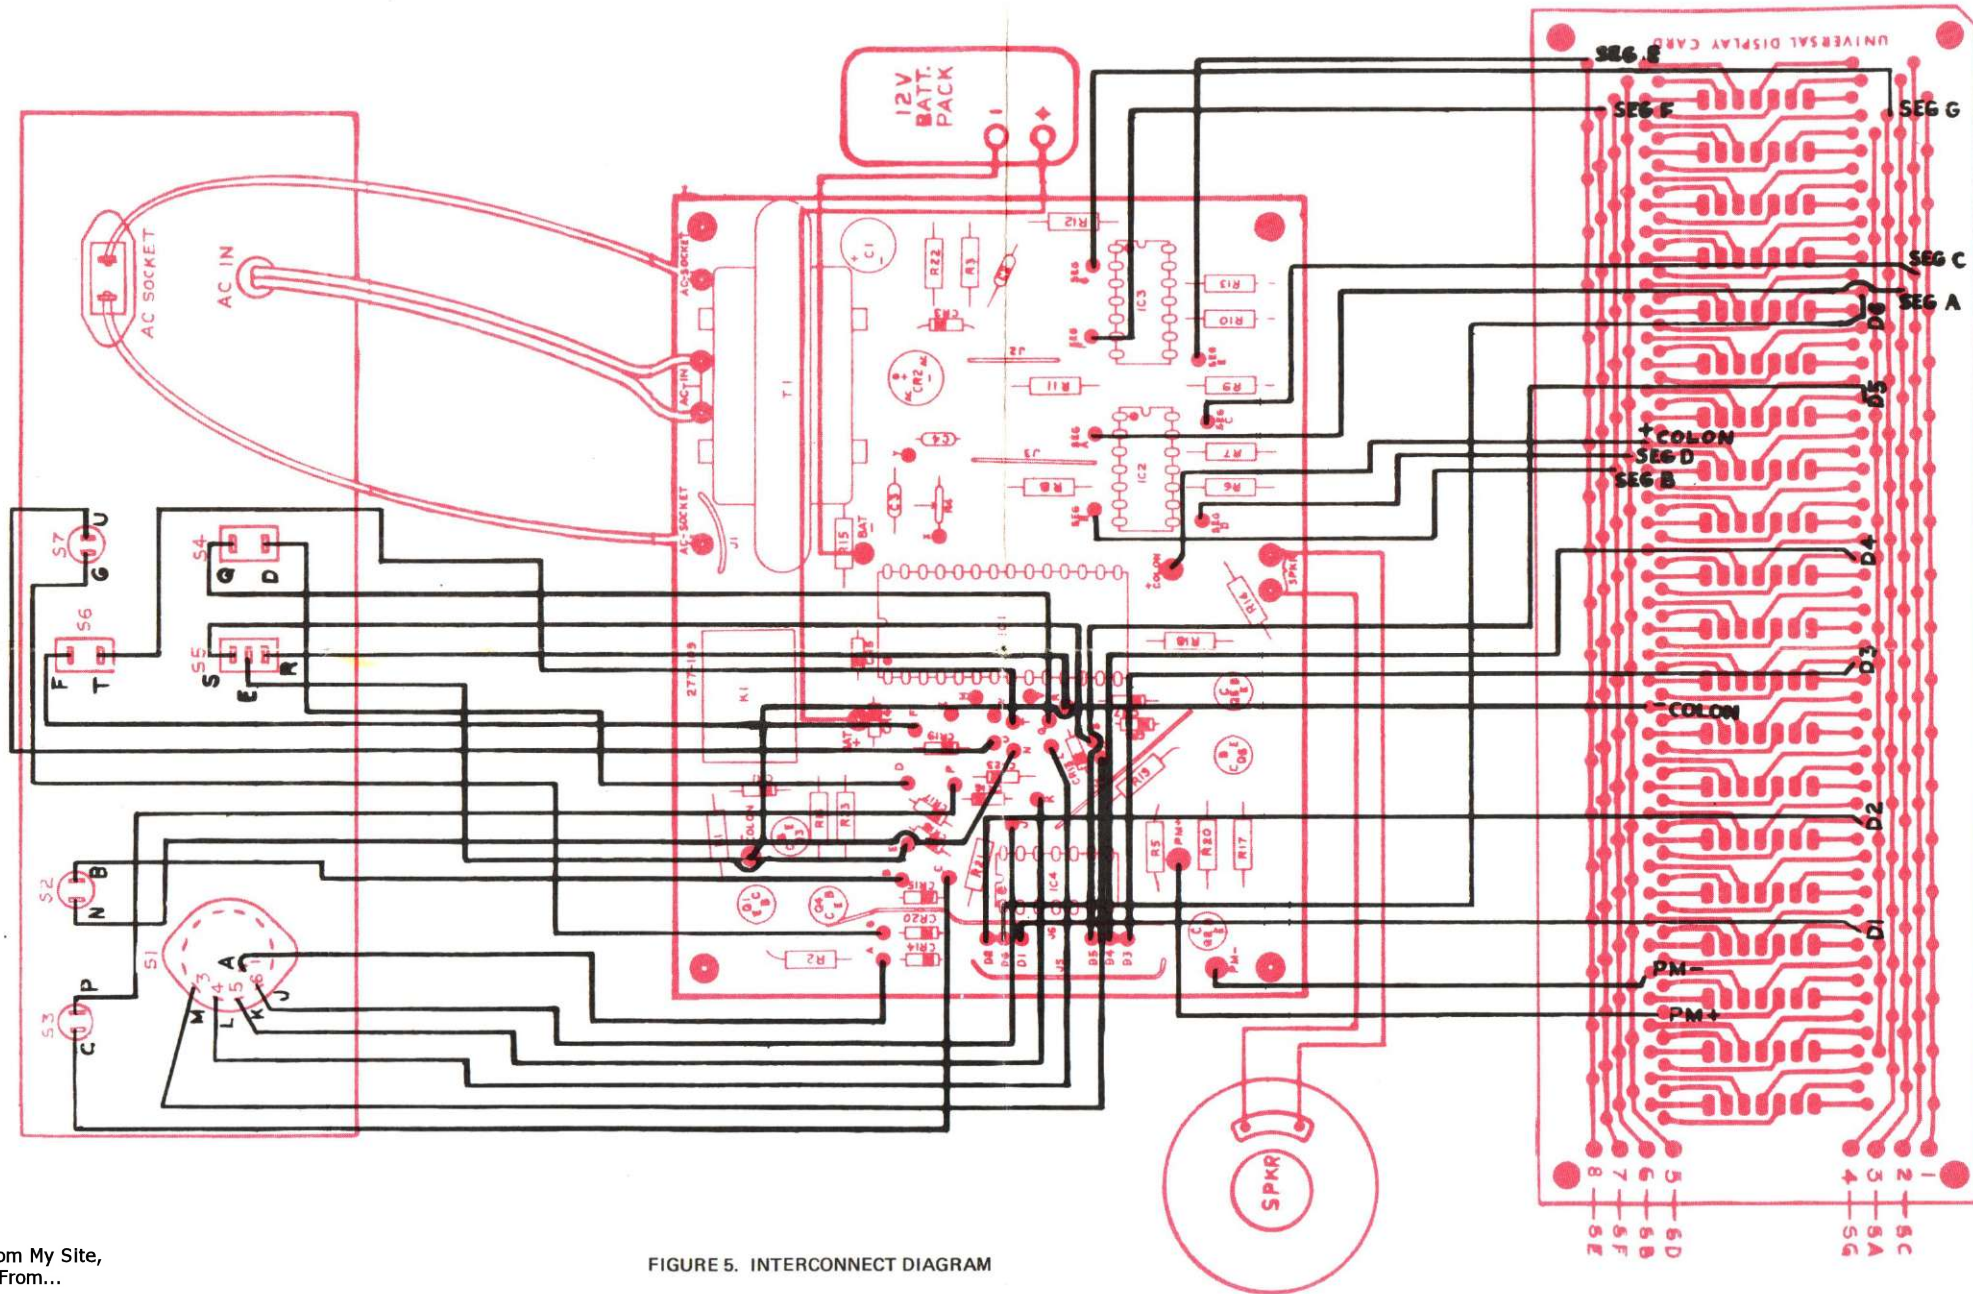

FIGURE 5. INTERCONNECT DIAGRAM
8. Use hookup wire between the following points (see Figure 5):